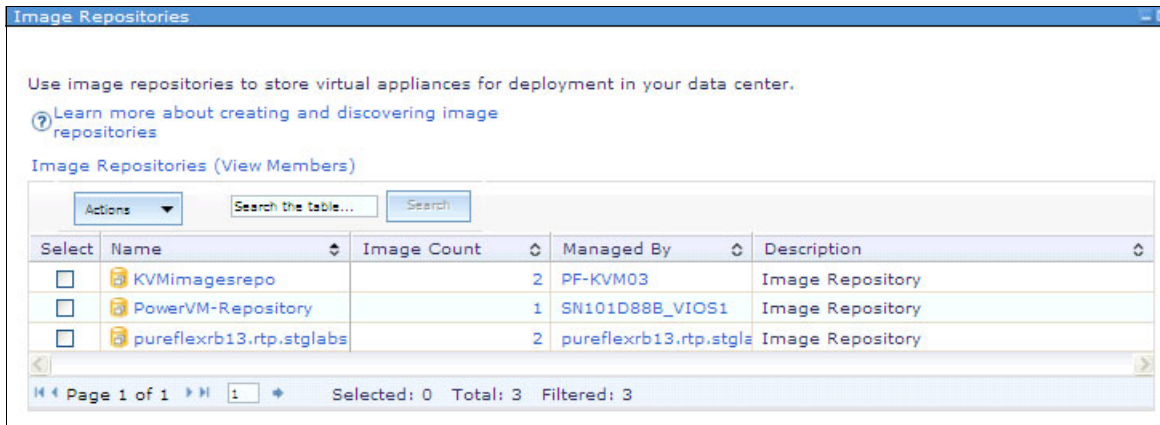

Figure 5-8 Images Repositories window
- g. The image repository server is discovered and inventory is collected as shown in Figure 5-8. For more information, see 9.3, “Image repository for KVM” on page 328.